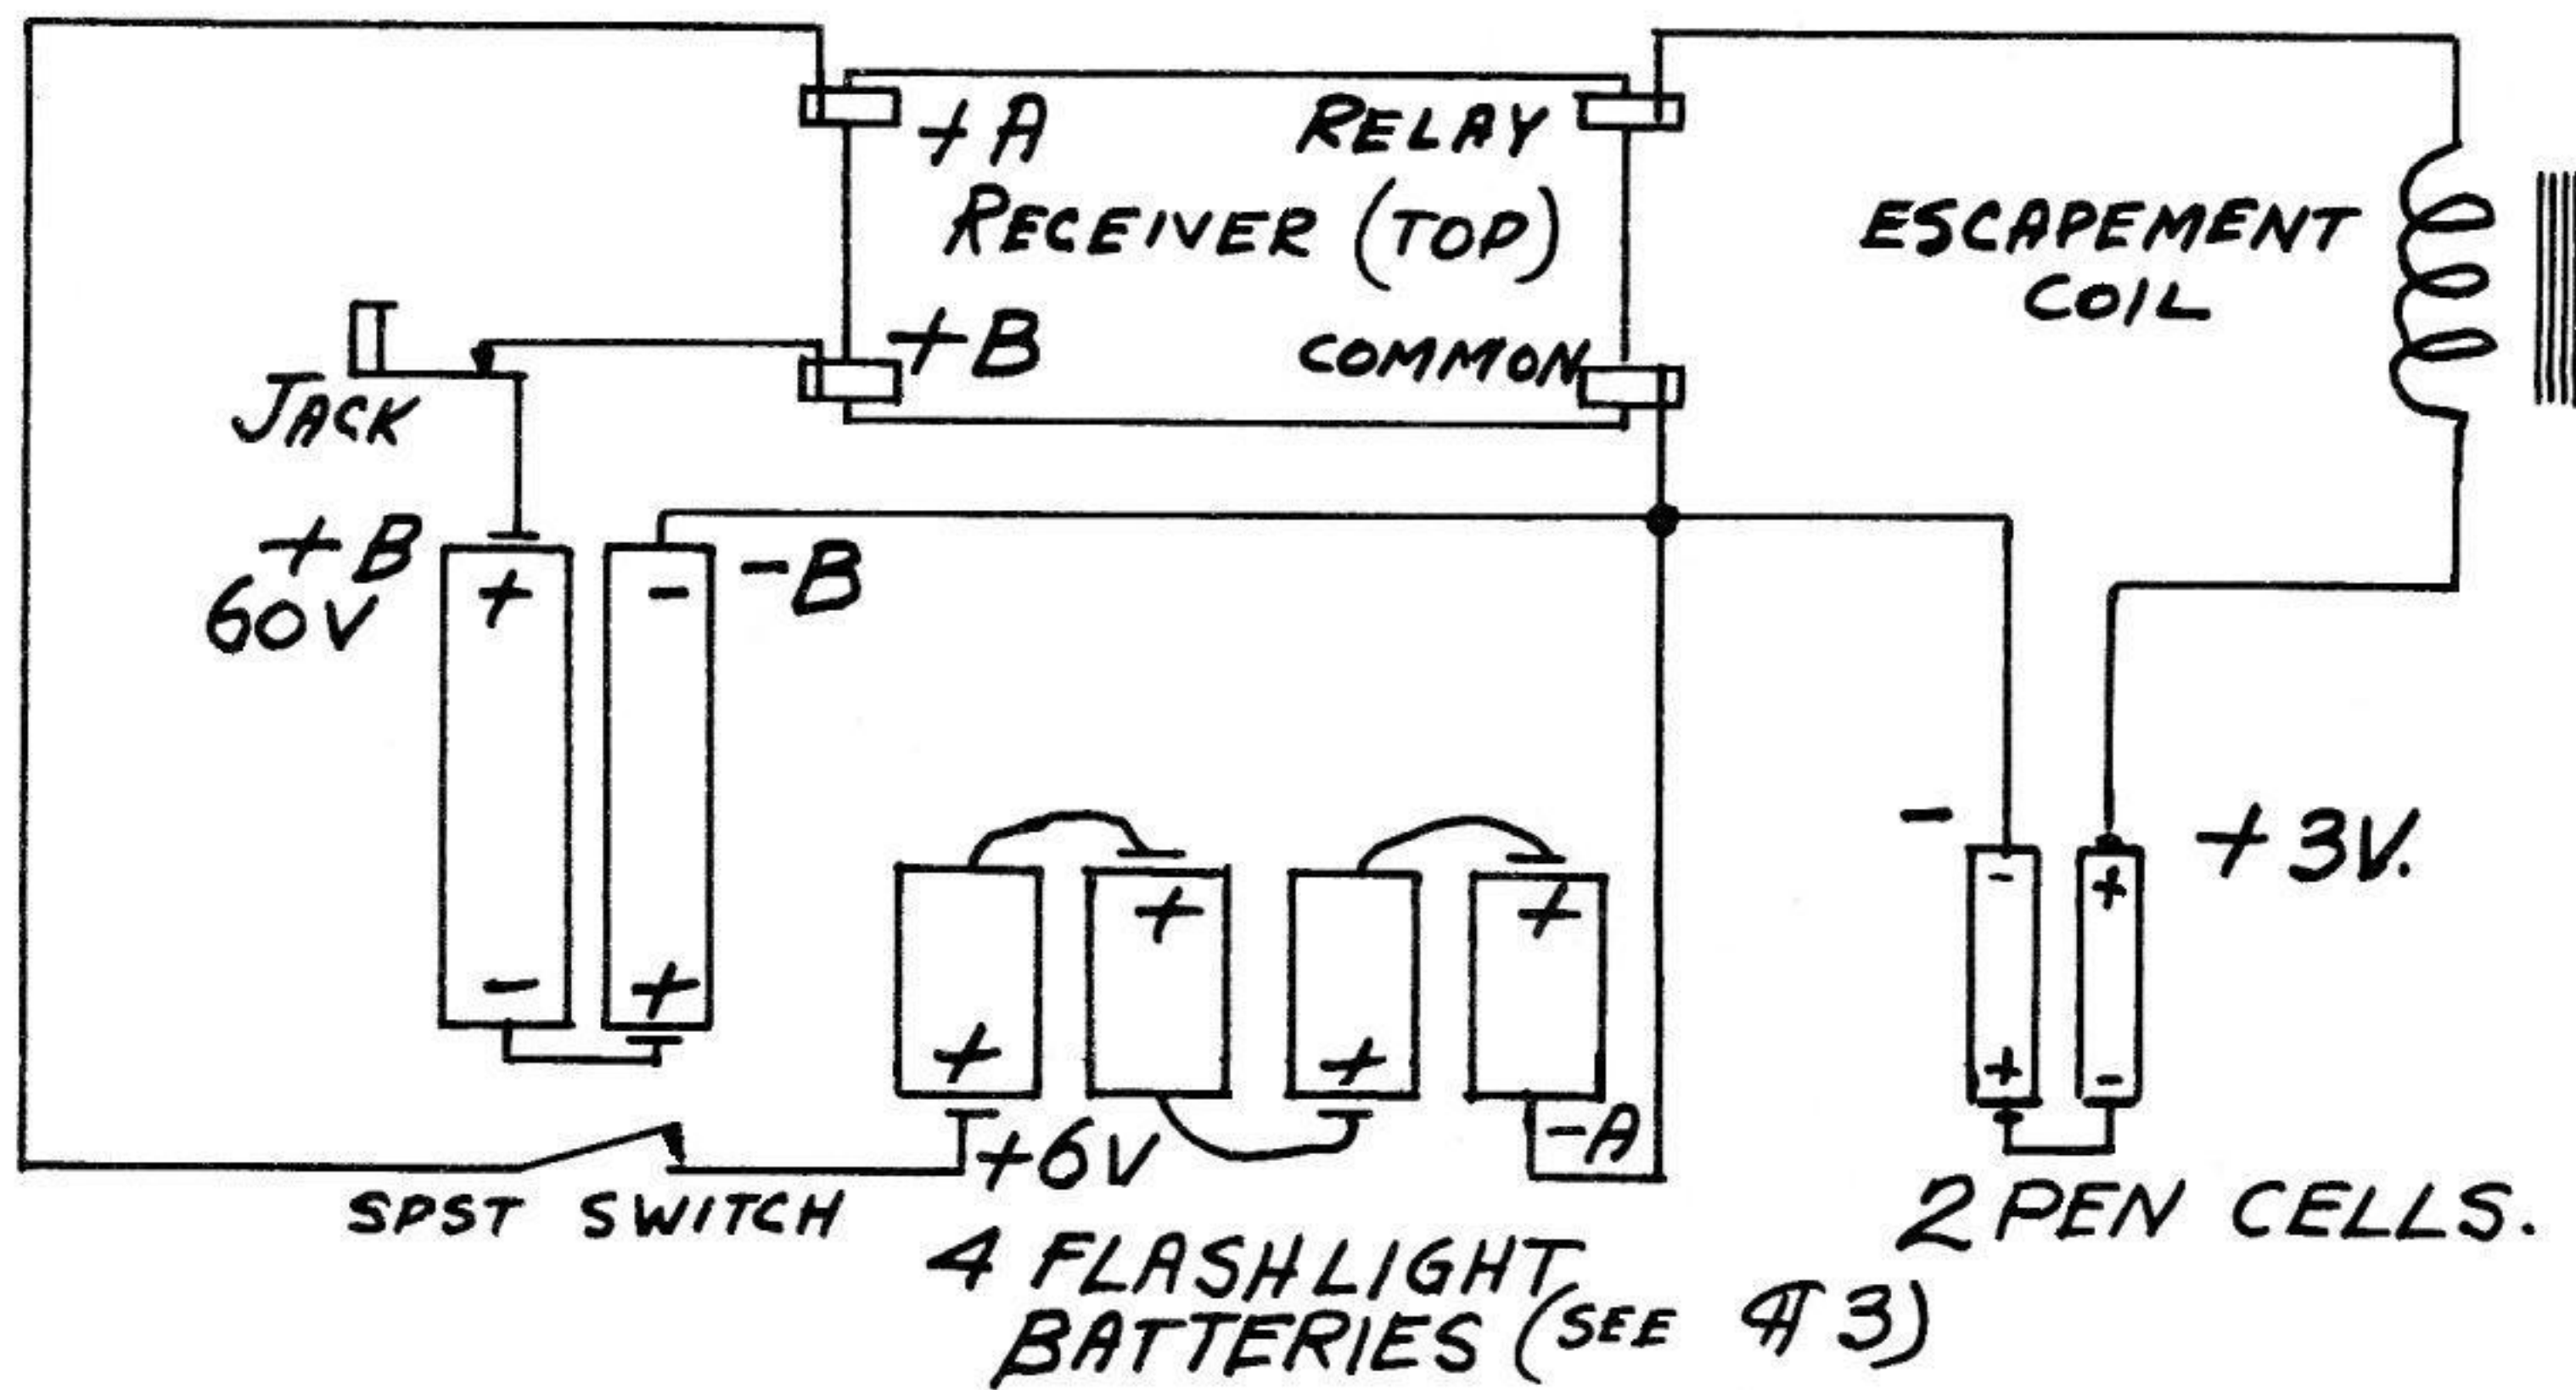
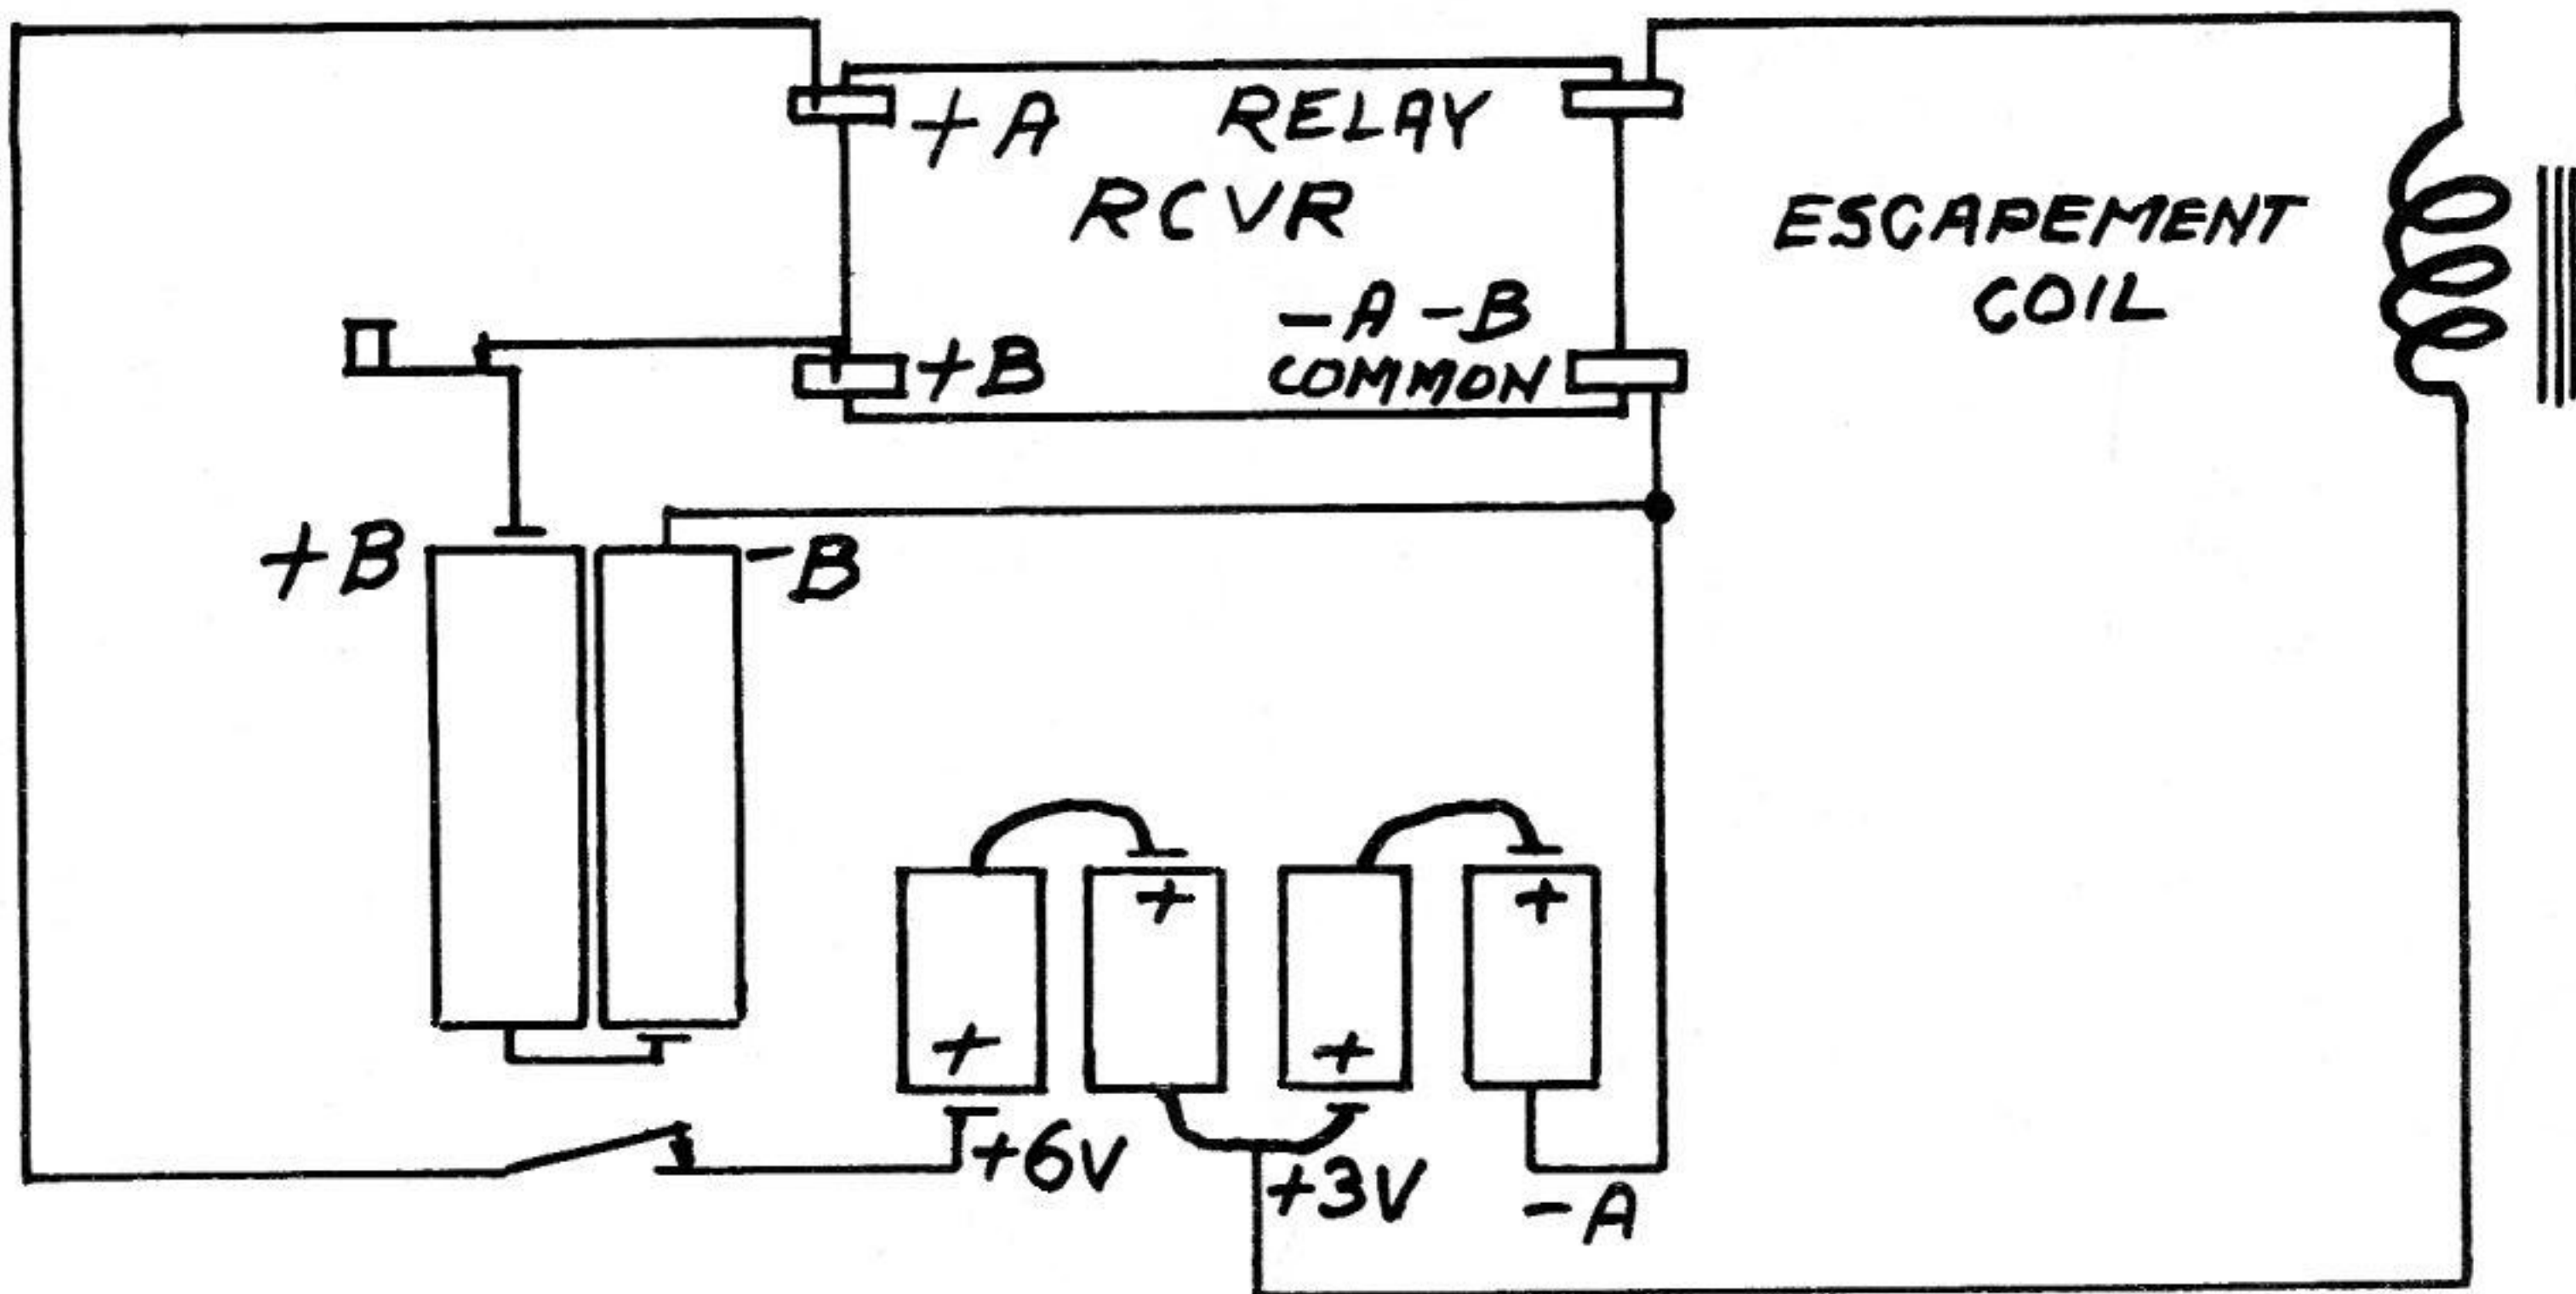

Fig 6
FIG 7
than one wire in a Fahnstock clip, these wires should be connected at another point as shown in the overall wiring diagram Figure 6. This diagram shows the escapement wiring also and it is convenient to complete this and wire up the escapement (or whatever control mechanism is to be used) so that it may be used as an indicator of the relay in the receiver opening and closing. When the relay in the receiver closes, it will actuate the escapement or control mechanism. Figure 7 shows an alternate wiring using two of the filament batteries to operate the escapement. Since this arrangement will run these two cells down more rapidly, their voltage must be checked frequently.
- 9.3 If the escapement is correctly wired as shown in Figure 6 or Figure 7, everytime the transmitter "Operate Switch" is pushed, it should operate ONCE. If it jumps or skips, do not fly. If inserting the 1.5 m. a. shows that the plate current is rising to its proper value, the escapement needs adjustment. (See instructions for that unit.)